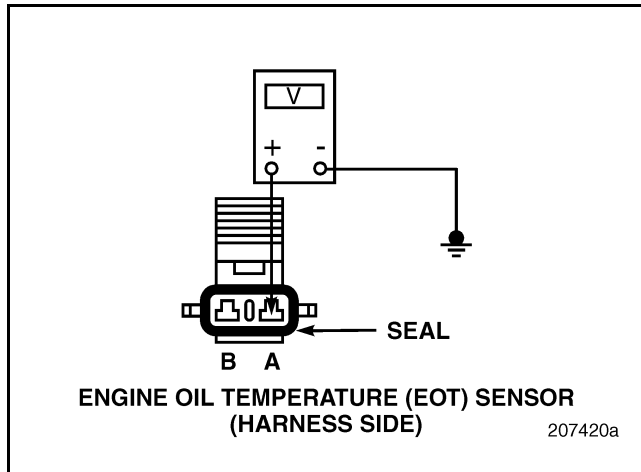

Figure 270
3. Measure voltage between EOT Sensor harness connector pin A and a good ground (see Figure 270).